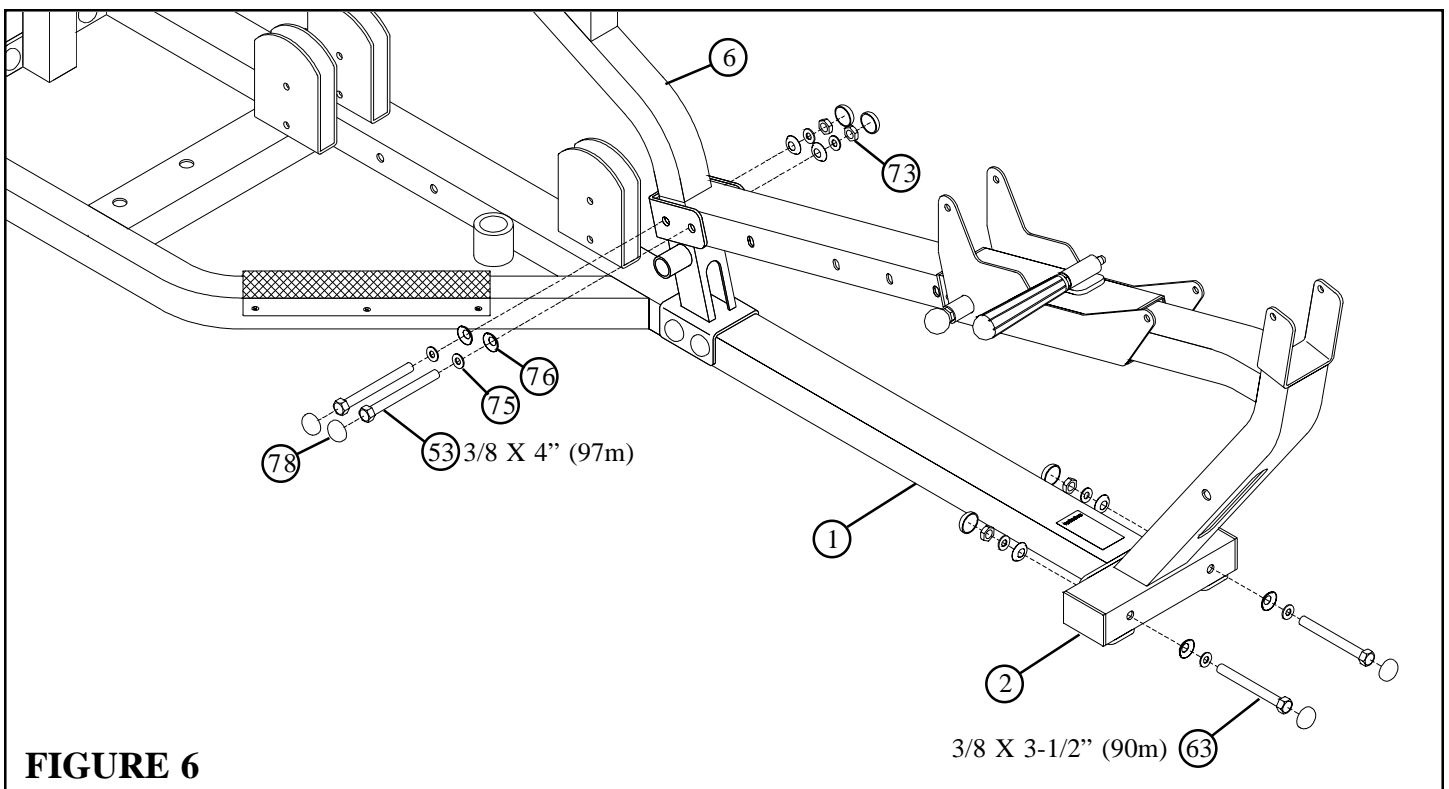

FIGURE 6
- **LOOSELY** assemble the BENCH FRAME (2) to the UPRIGHT SUPPORT (6) and the BASE (1) using eight RH CAPS (78), two 3/8 X 3-1/2" BOLTS (63), two 3/8 X 4" BOLTS (53), eight 3/8" SAE WASHERS (75), eight 3/8" RH WASHERS (76) and four 3/8" LOW HEIGHT LOCK NUTS (73) as shown in FIGURE 6.